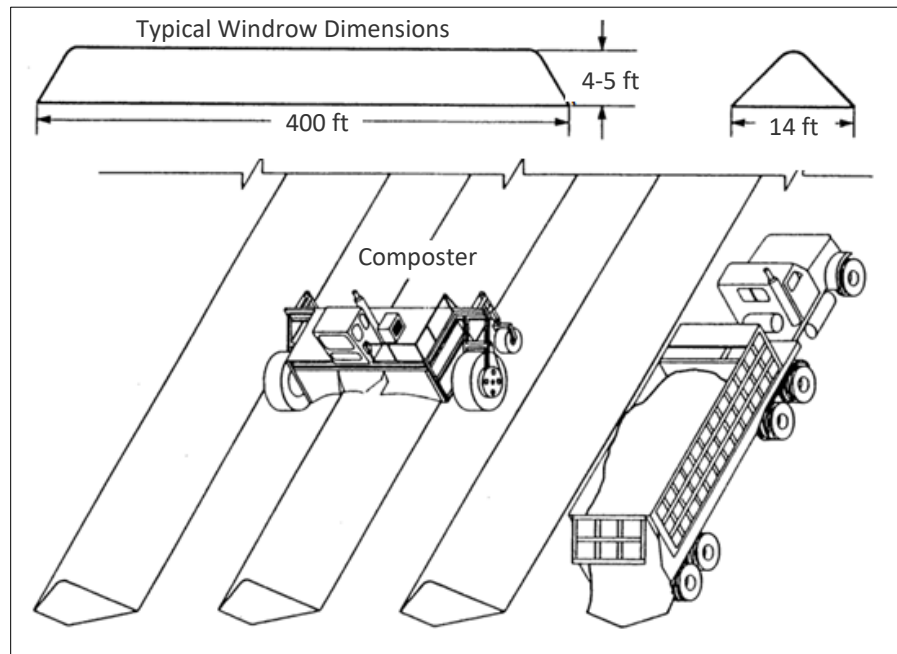

Figure 4-6. Windrow method of composting.
Mixing is accomplished by either (1) drums and belts powered by agricultural equipment and pushed or pulled through the windrow pile; or (2) self-propelled mixing equipment that straddles the pile (Figure 4-6).